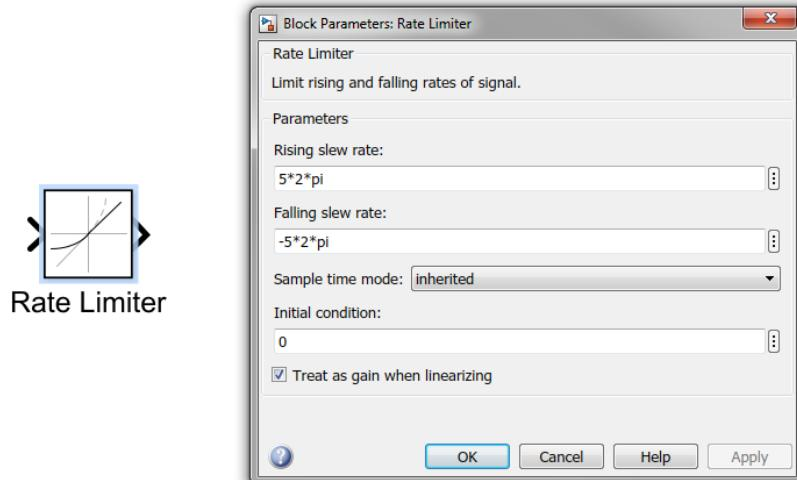

Figure 6.1: Rate Limiter block of the Simulink Library.
5. Enable the built-in rate limiter of the reference signal by switching on the **rate\_lim\_select** switch of the **Set-Point Control** subsystem. The built-in rate limiter is implemented for safety reasons to avoid overcurrents while performing speed steps in the scalar control mode. Figure 6.1 shows the Rate Limiter block from the Simulink library. The values of rising and falling slew rates are set by default for this measurement at  $5*2*pi \frac{rad/s}{s}$  and  $-5*2*pi \frac{rad/s}{s}$  correspondingly. It means that the reference speed of 10 rev/s ( $10*2*pi$  rad/s) will be reached in 2 seconds.